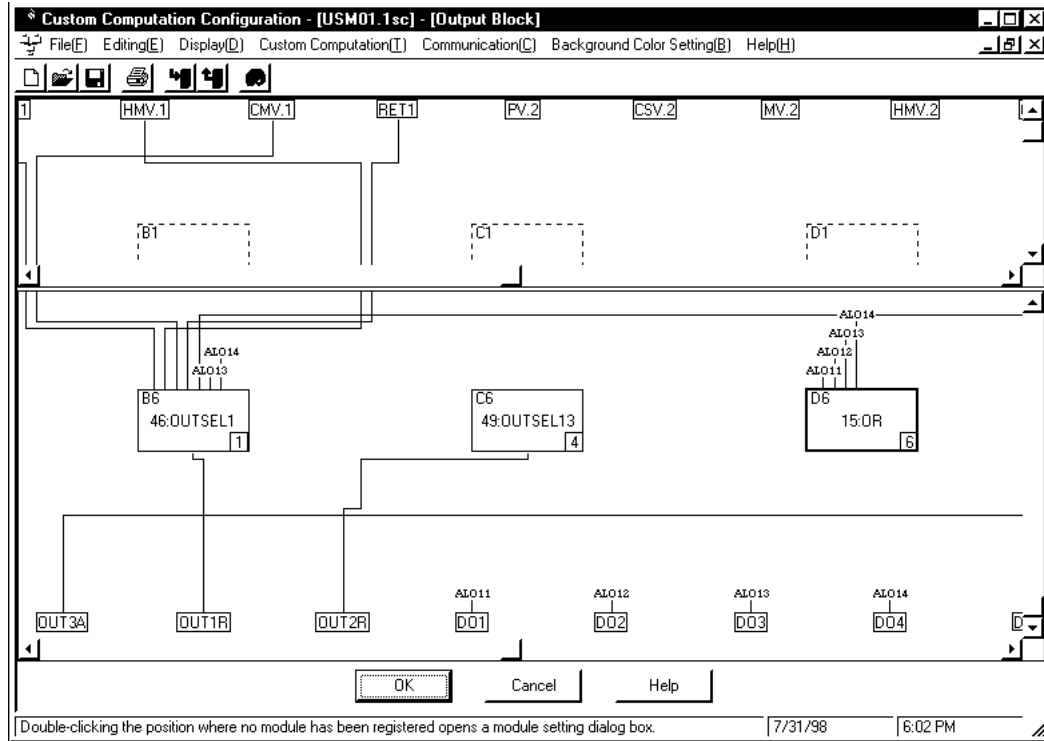

Figure 12.7.8 [Output Block] Dialog Box
- ① In the [Output Block] dialog box (Figure 12.7.8), click the <DO1> output signal.